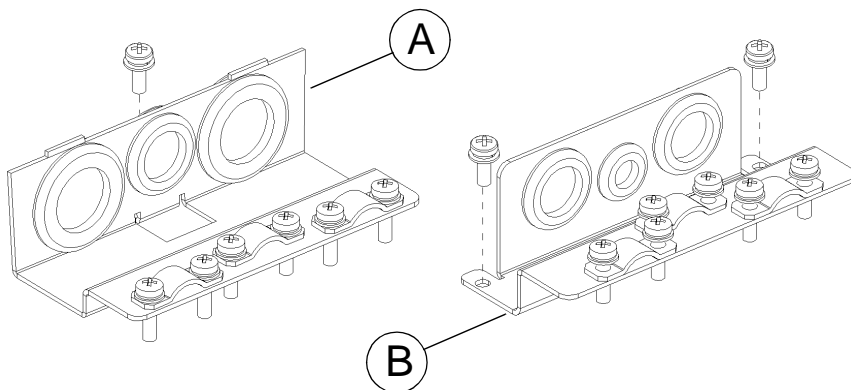

Figure 17 Gland plate for **power cables (A)** and for **control cables (B)**, type IP 21 / NEMA1 frequency converters.
The gland plate for control cables (B), see Figure 17.